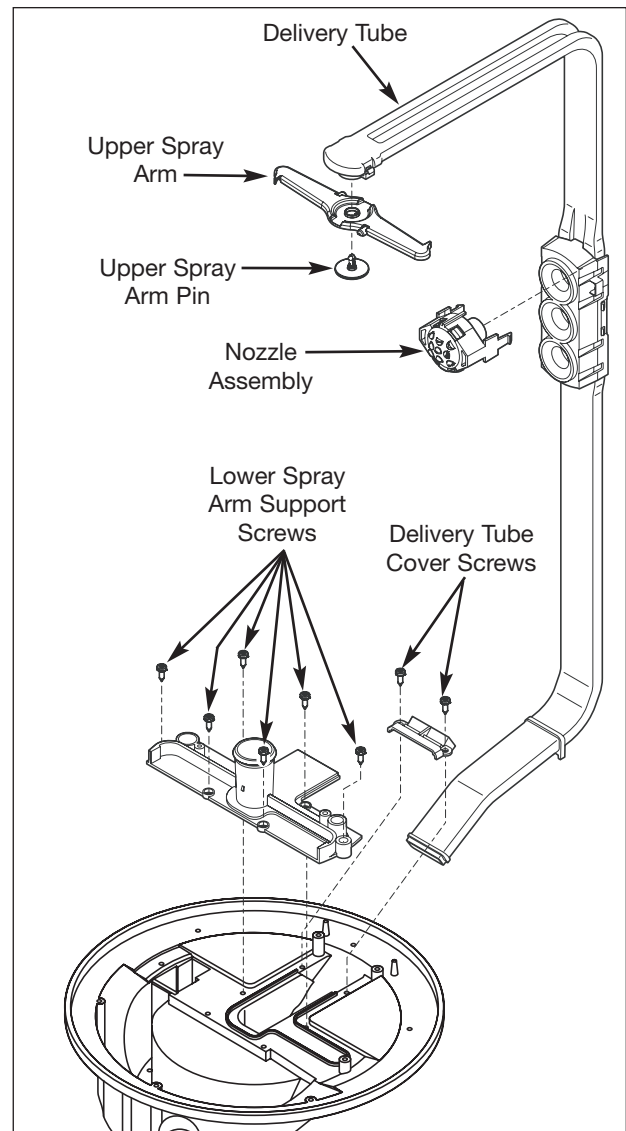

Figure 5-20. Delivery Tube and Lower Spray Arm Support Removal
To remove the delivery tube: (See Figure 5-20)
7. Using a #20 Torx bit, extract the six screws securing the lower spray arm support to sump. (See Figure 5-20)